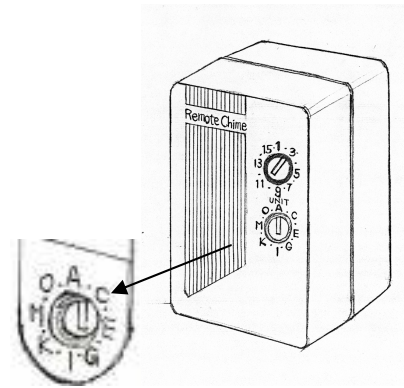

Fig.1
2. Set the first Appliance Module's frequency code to the letter A, which is located on the front of the Module (See figure 1). Set the first receiver's Unit dial to 1. Each additional Appliance Module should be set in numerical order when using this unit to control more than one device. E.G. when controlling four devices the first device's Appliance Module should be set to the A-No. 1, the second should be set to A-No. 2, third A- No. 3 and the fourth to A- No. 4.